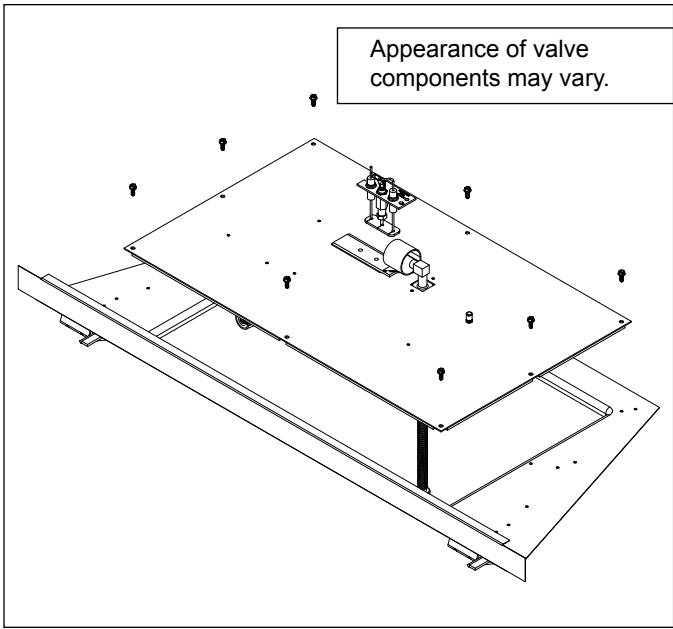

Figure 3.6 Valve Assembly Removal
6. See Figure 3.6 for valve assembly removal.